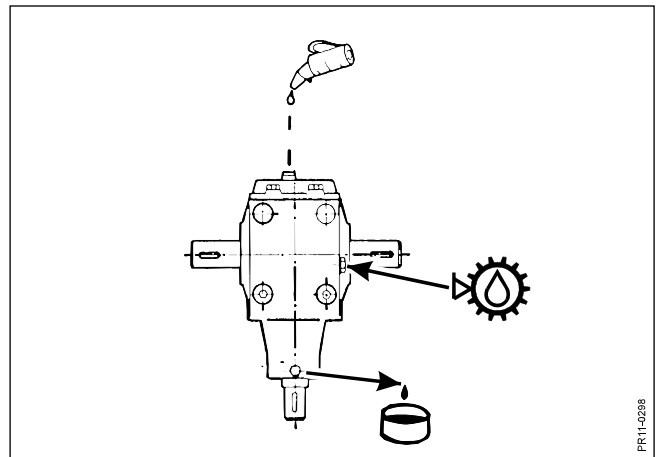

Fig. 4-7
- Fig. 4-7 **Oil content:**  1.5 l